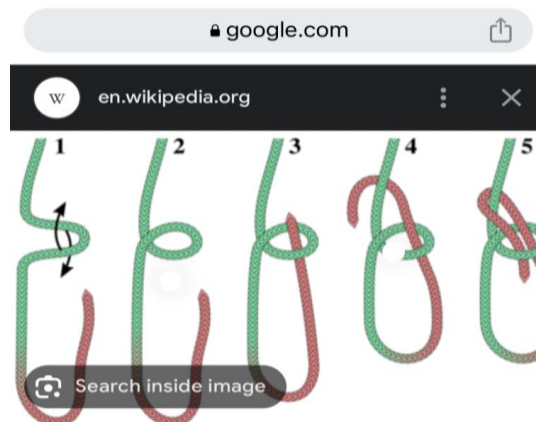
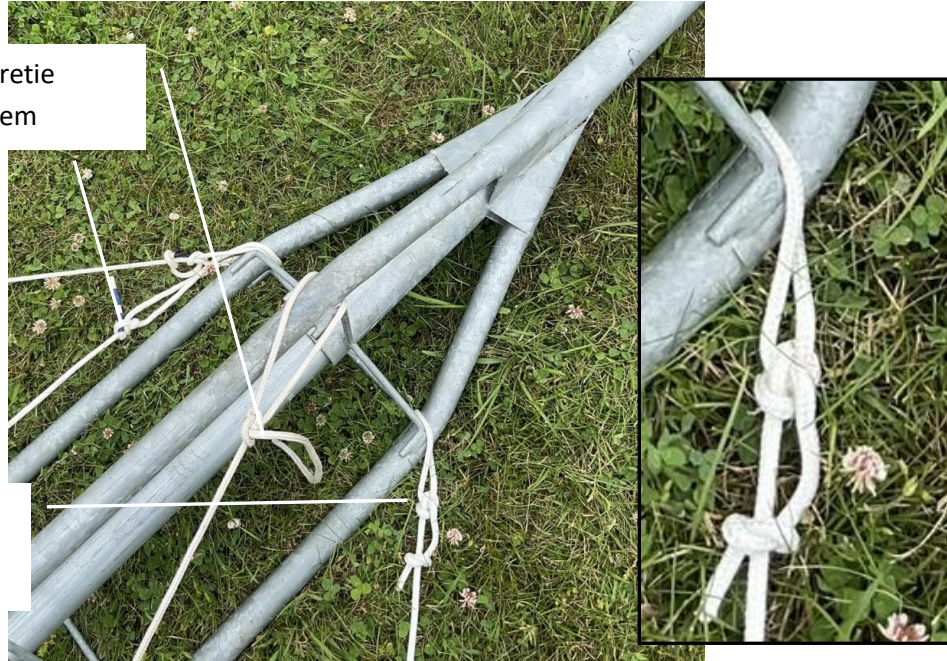

Figure 13 How to tie a Bowline knot
Figure 14 Stays tied to Tower with Bowline and stopper Knots
- **Attach the four side stays.** The upper side stays are tied to the top most part of the tower and lower side stays are tied to the mid section of the tower. The side stays are attached to the tower using a bowline knot and overhand stopper knot. See Figure 13 and Figure 14.